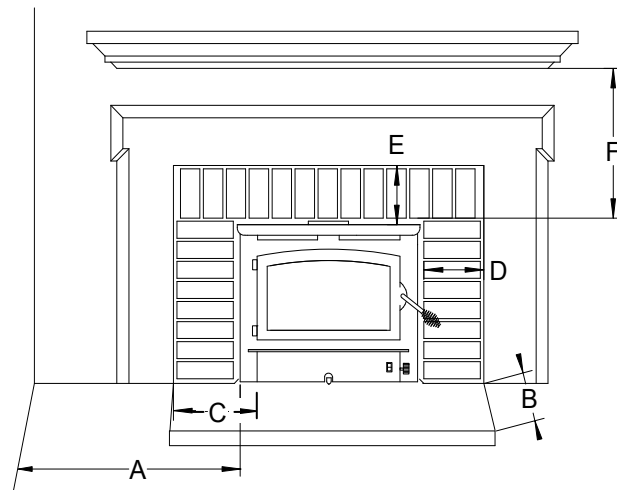

Figure 1
1. The hearth must be of masonry construction and must extend a minimum of 16" in front of the firebox opening and a minimum of 8" to either side of the firebox opening. (See Figure 1).